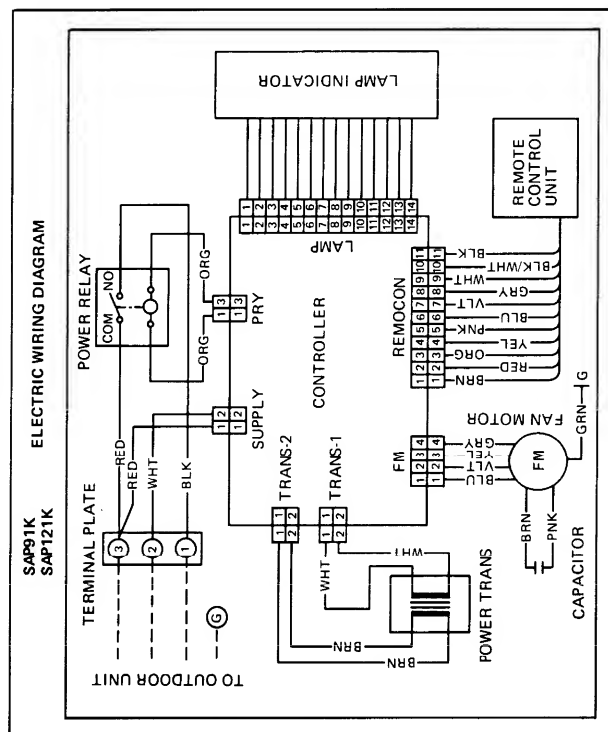

Fig. E-12
2. Set the resistance measuring range of multimeter to "X1Ω" and measure the resistance of the lead wires between WHT - WHT and BRN - BRN as shown in Fig. E-12.